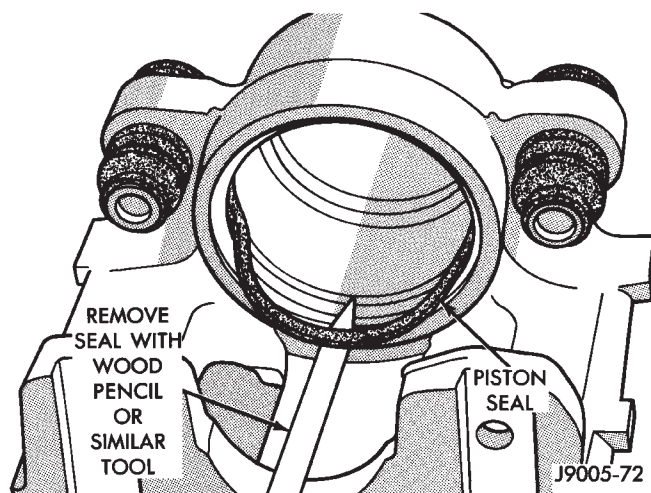

Fig. 67 Piston Seal Removal
(6) Remove caliper piston seal with wood or plastic tool (Fig. 67) and discard seal. Do not use metal tools as they will scratch piston bore.